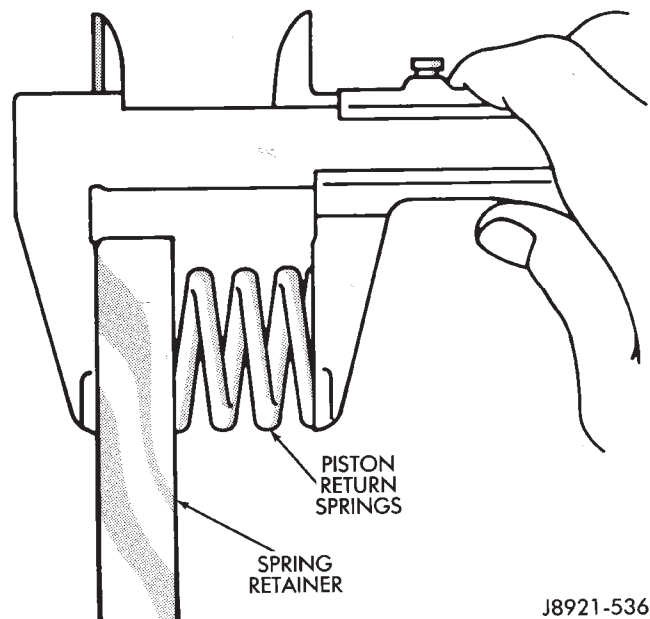

Fig. 8 Checking Piston Return Spring Length
(12) Remove and discard clutch piston O-rings.
(13) Measure clutch disc thickness. Minimum allowable thickness is 1.84 mm (0.0724 in.). Replace discs if below minimum thickness.
(14) Measure free length of piston return springs with springs in retainer (Fig. 8). Length should be 21.32 mm (0.839 in.). Replace return springs if not within specification.